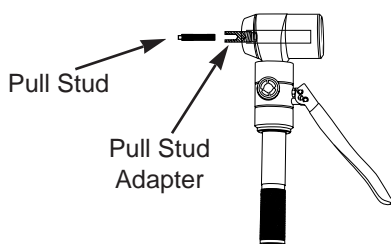

Figure 3
2. Attach the pull stud adapter to the cylinder by inserting the pull stud adapter into the plunger opening and threading until the pull stud extends beyond the end of the cylinder. (Figure 3)